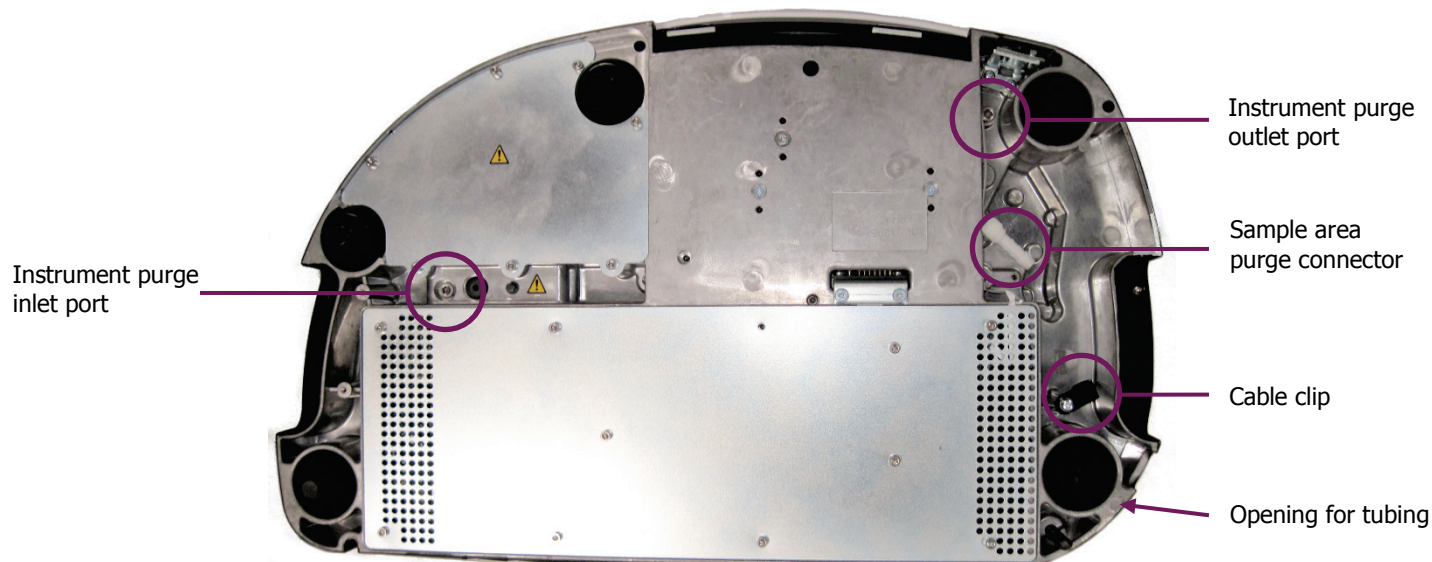

Figure 85 Location of purge connectors
5. Locate the instrument purge inlet port shown in Figure 85.
6. Using an M5 hexagonal key, unscrew and remove the bolt in the inlet port (Figure 85).